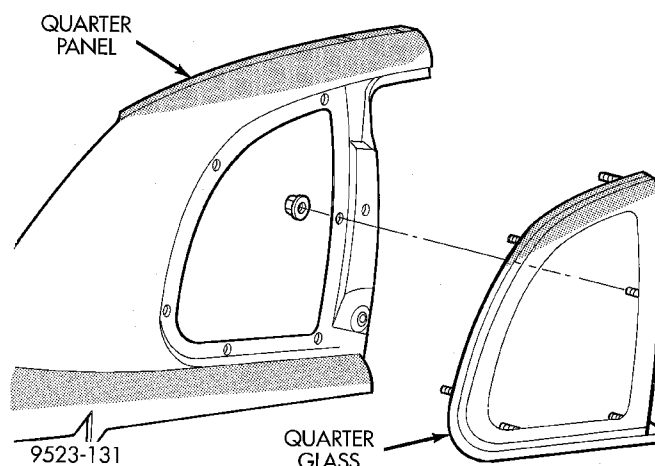

Fig. 7 Quarter Glass
(5) Separate quarter glass from vehicle (Fig. 7).